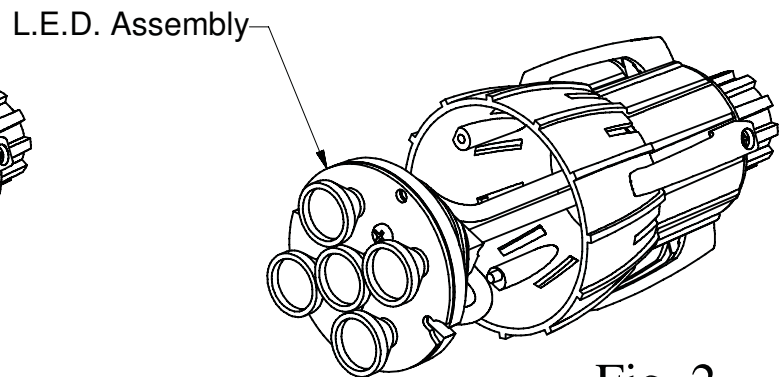

Fig. 2
- 2) Remove "LED assembly" by unplugging wire harness attached to the assembly and remove. (See Fig. 2)